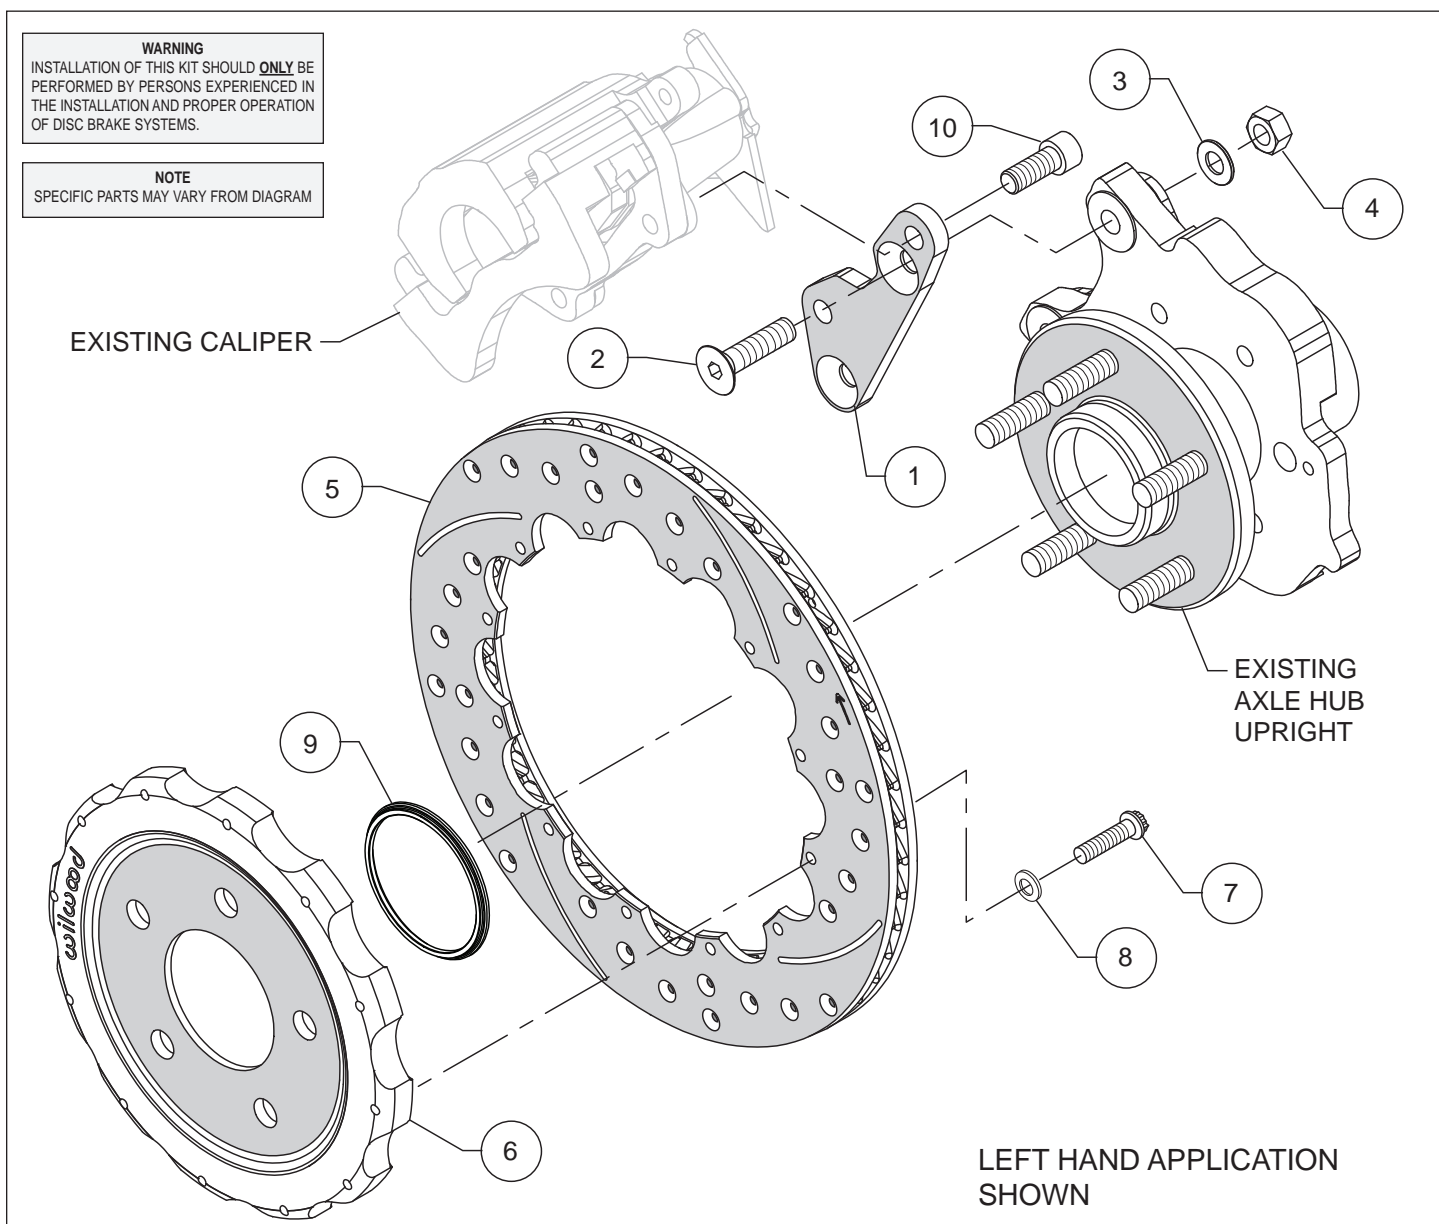
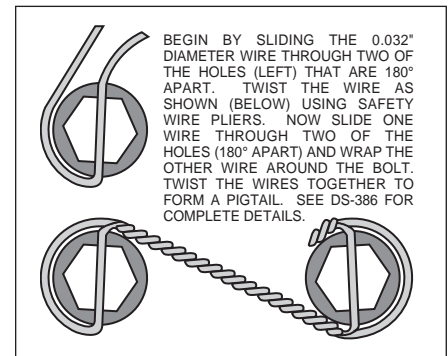

Figure 1. Typical Installation Configuration
Figure 3. Safety Wire Diagram
Assembly Instructions (numbers in parenthesis refer to the parts list and Figure 1 on the preceding page):
- The caliper mount bracket (1) should initially be installed with clean, dry threads on the mounting bolts. Orient the bracket as shown in Figure 1 and install using bolts (2) washers (3) and nuts (4). Temporarily tighten the mounting bolts. **NOTE: The bracket must fit squarely against the mounting points on the axle hub.** Inspect for interference from casting irregularities, machining ridges, burrs, etc. Remove bolts one at a time, apply red *Loctite*® 271 to threads, and torque nuts to 70 ft-lb.
- Orient the rotor (5) and the hat (6) as shown in Figure 1. Attach rotor to hat using bolts (7) and washers (8). Using an alternating sequence, apply red *Loctite*® 271 to the threads, and torque to 155 **in-lbs**. For an added measure of security, the bolts may be safety wired using standard 0.032 inch diameter stainless steel safety wire as shown in Figure 3.
- Slide the rotor registration adapter (9) onto the axle register on the axle flange with the smaller O.D. facing toward the hat/rotor (5/6). Slide the hat/rotor assembly onto the axle hub. **NOTE:** *The hat must fit flush against the axle hub flange or excessive rotor run out may result.* Install three lug nuts (finger tight) to keep the rotor in place while continuing with the installation.
- Mount the caliper (Shelby supplied) onto the caliper mounting bracket (1) using bolts (10) as shown in Figure 1. Torque caliper mounting bolts to 70 ft-lb.